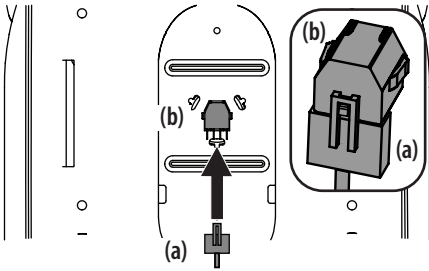

Figure 5
3. If necessary, securely connect the seat switch wiring harness (a) to the seat switch (b). See Figure 5. Secure excess wire away from pinch points before continuing.